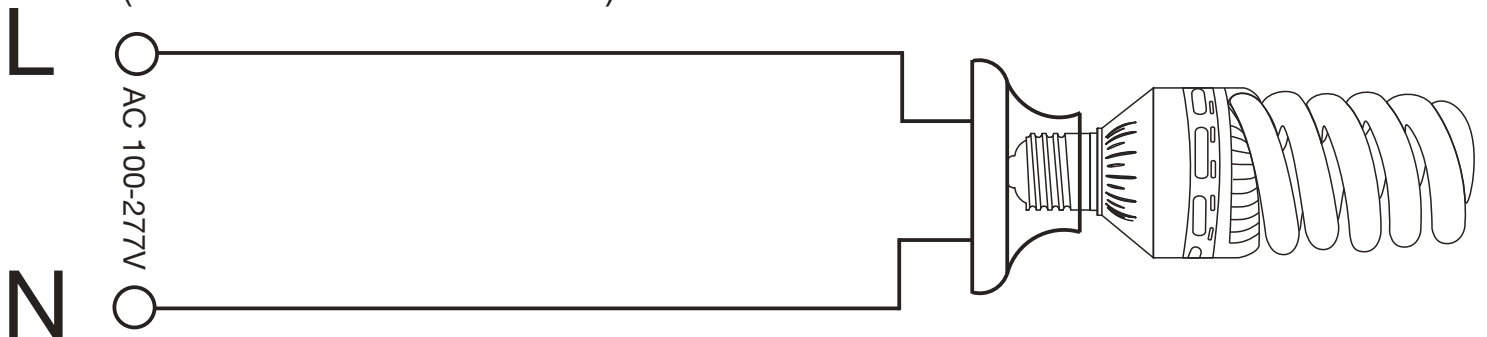

Fig 3
3. Install New LED Replacement lamp. Shown as Figure 3. Please make sure the old fitting is correctly earth. (North America 100-277VAC)